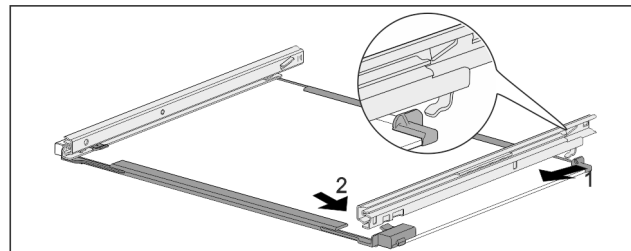

Fig. 159 Glass shelf with rails
- Hook in rail at the back. Fig. 159 (1)
- Hook in rail at the front. Fig. 159 (2)